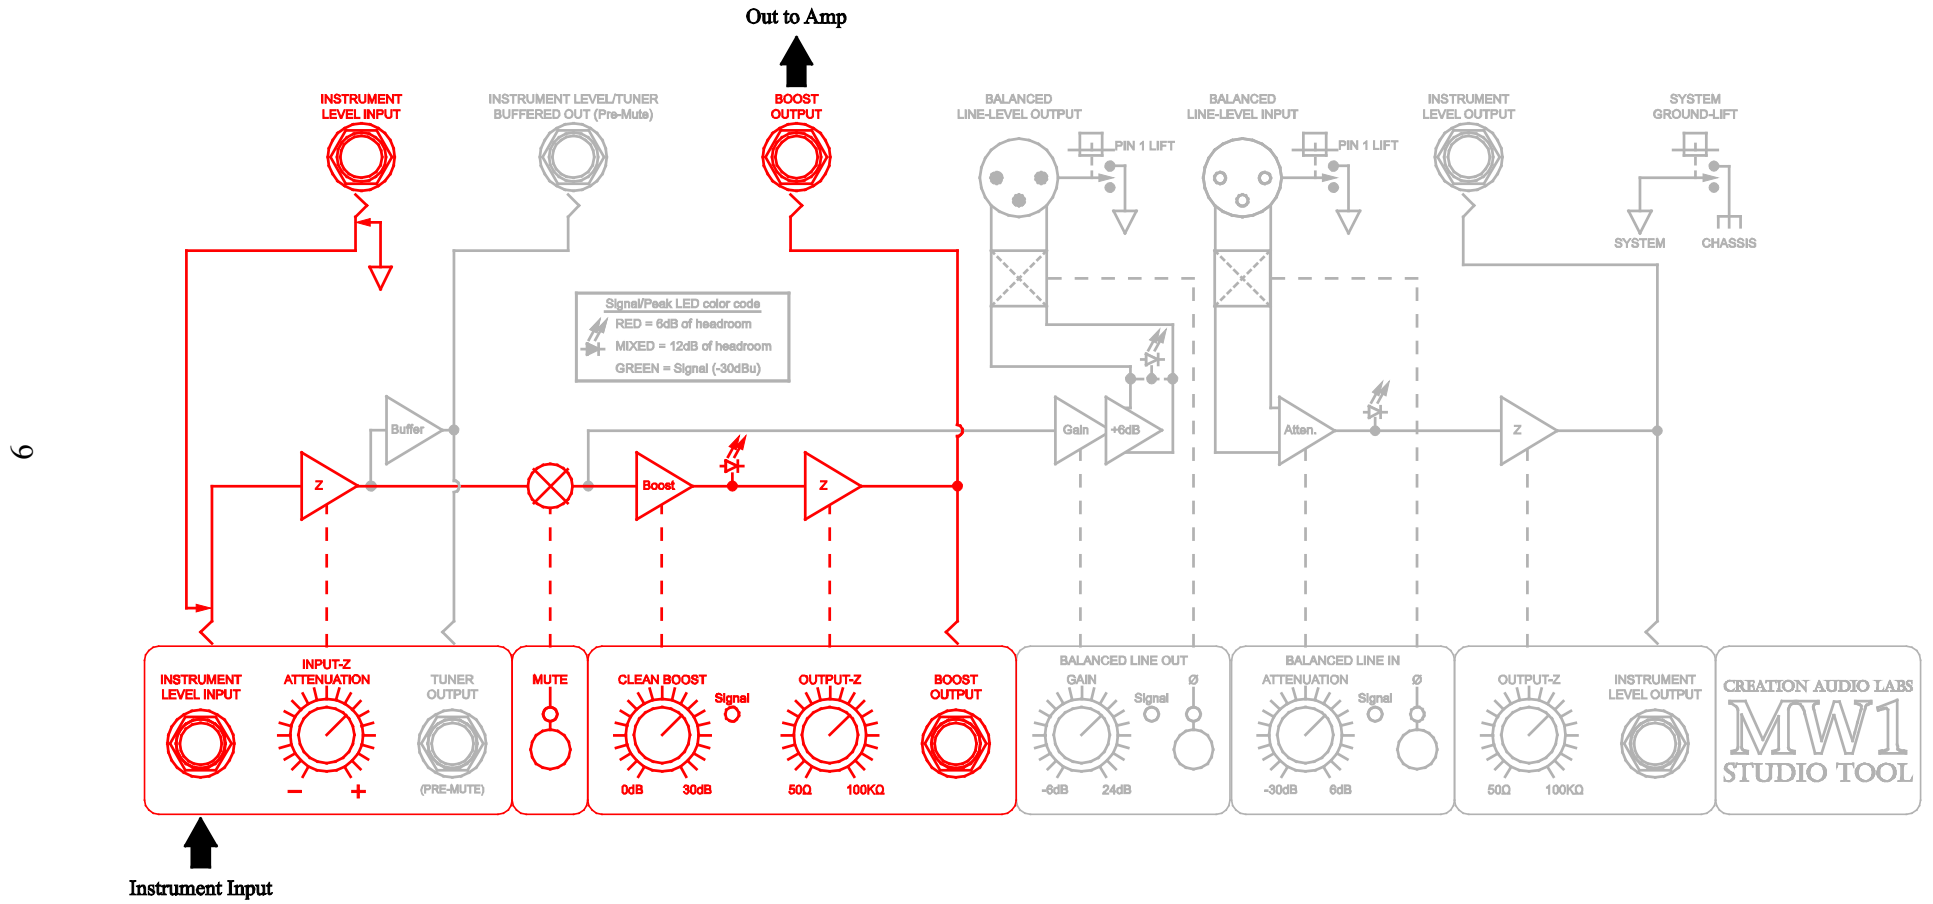

FIG. 2
- 0 – 30dB of pure clean boost. (Fig. 2)